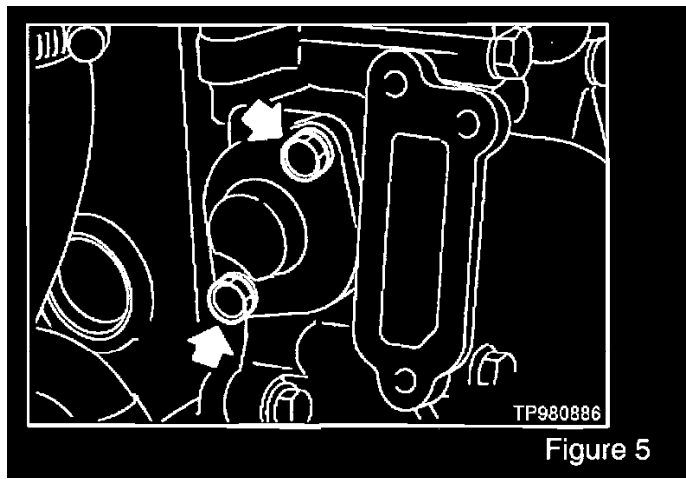

Figure 5
20. Remove the lower chain tensioner (see Figure 5).